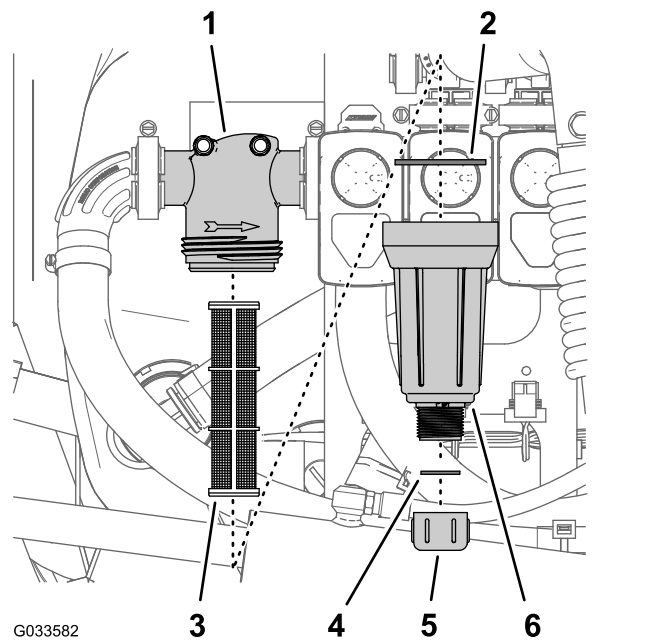

Figure 79
2. Align a drain pan under the pressure filter (Figure 79).
3. Rotate the drain cap counterclockwise and remove it from the bowl of the pressure filter (Figure 79).
4. Rotate the bowl counterclockwise and remove the filter head (Figure 79).
5. Remove the pressure filter element (Figure 79).
7. Check the gasket for the drain plug (located inside the bowl) and the gasket for bowl (located inside the filter head) for damage and wear (Figure 79).
8. Install the pressure filter element into the filter head (Figure 79).
9. Install the bowl onto the filter head, and tighten by hand (Figure 79).
10. Assemble the drain cap onto the fitting at the bottom of the bowl, and tighten the cap by hand (Figure 79).